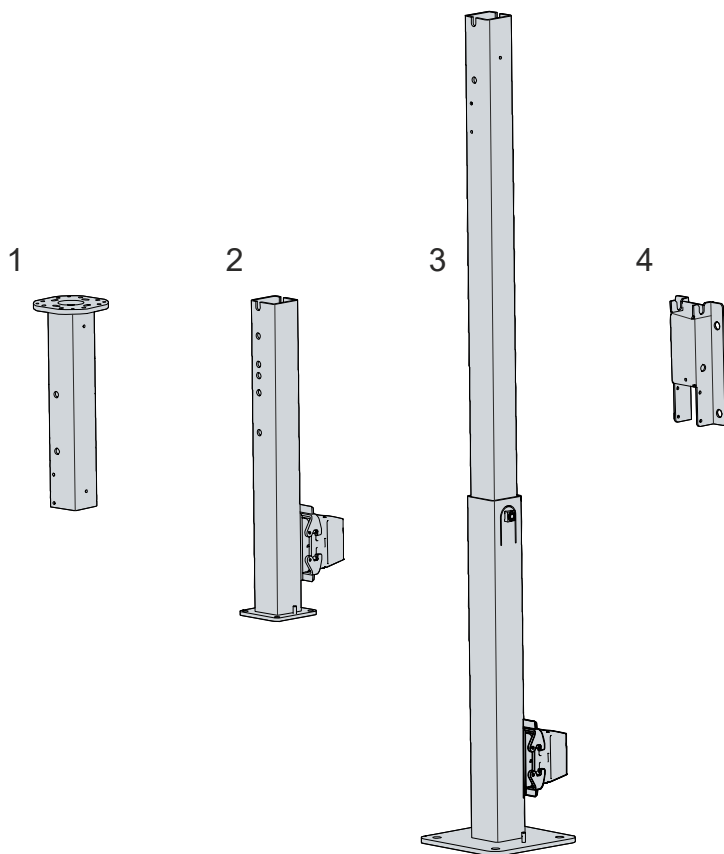

Fig. 8: Mounting arms CP32xx
Four different mounting arms are available for mounting your devices according to your requirements. Figure 8 shows the four available mounting arms for mounting on the ceiling (1), on the control cabinet (2), on the floor (3) and on the wall (4).
The C9900-M803 and M804 mounting arms are equipped with a cable set for the CP32xx-2xxx-0020 or the C9900-M800 push button extension. These cables are connected to a HAN connection socket in the lower part of the mounting arms. Figure 8 shows the connection sockets on the two mounting arms mentioned (2, 3). Both mounting arms are supplied with a plug to match the connection socket. Further information on the HAN plug can be found in the corresponding plug documentation.